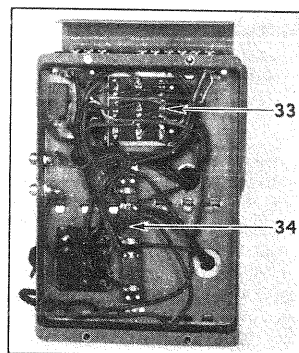

Fig. 6—Bottom of Socket Power Unit
- Open resistor unit No. 33, Fig. 6, or No. 34 for "+135 B" only
- Defective resistor unit 33, Fig. 6.